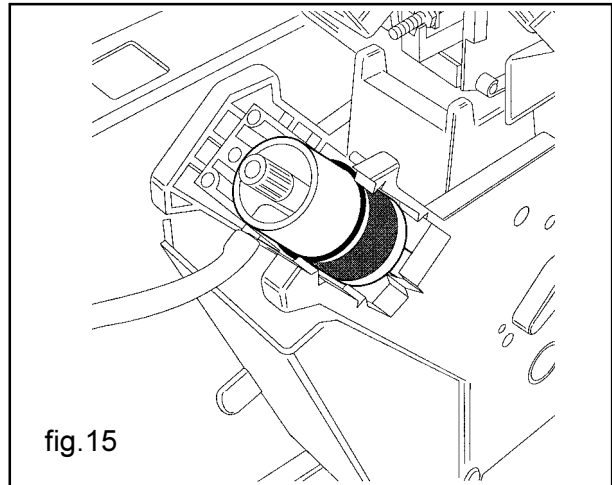

fig.15
- The rotation unit gear motor starts-up, brings it into the dispensing position and simultaneously compresses the ground coffee (fig.15).